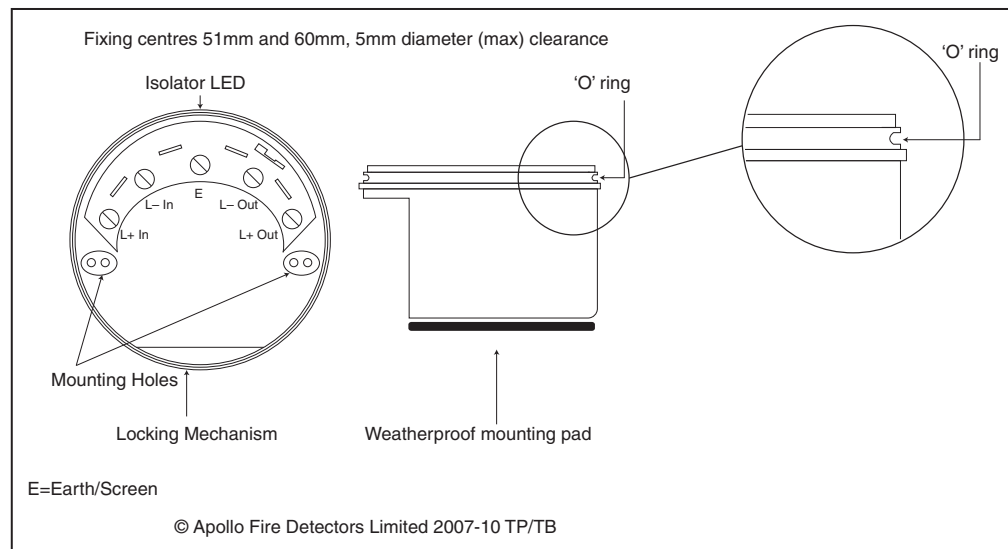

Fig 2 Base diagram
2. Secure the base to the mounting surface with pan-head screws. If IP65 integrity is required, fit the weatherproof mounting pad between the base and the mounting surface. Fit the 'O' ring to the base (Fig 2) using a lubricant such as silicone grease.
4. To lock the sounder in the base, snip the break-out on the base rim (location shown in Fig 2.). Fit the sounder to the base.